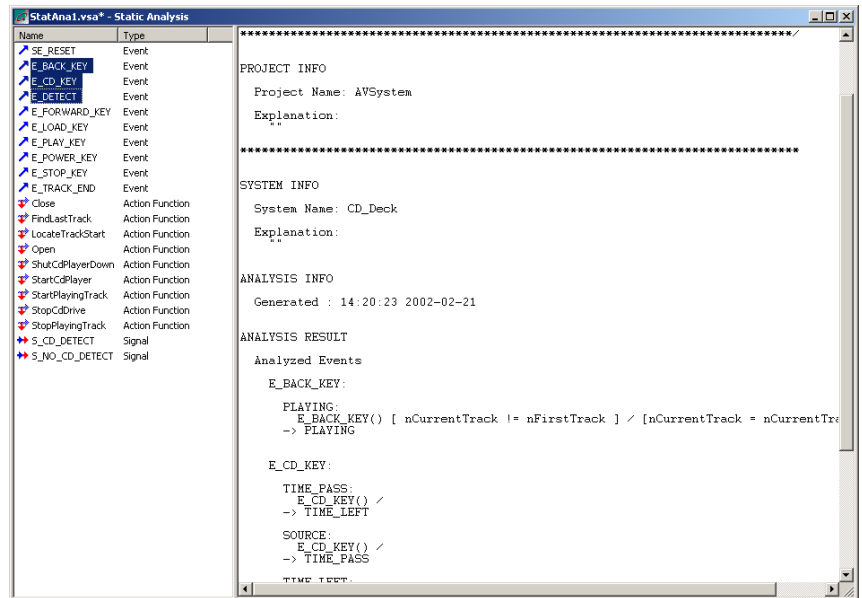

Figure 159: Static analysis results (Validator)
- 4 On the Analysis toolbar, select the sequence for which to perform the analysis. This can be a sequence in a test sequence file, or it can be performed on the data collected since the last time the dynamic analysis data was reset. This set of data is named *Current Test Session* (see *Figure 159*, page 197). Using collected data allows an on-the-fly calculation of the test coverage.